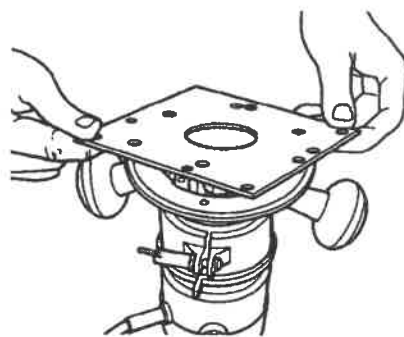

Fig. A-21
31. Place the Joint-Matic's mounting plate (34) on your router's base and line up the screw holes in the mounting plate with those in the router's base. See Fig. A-21.